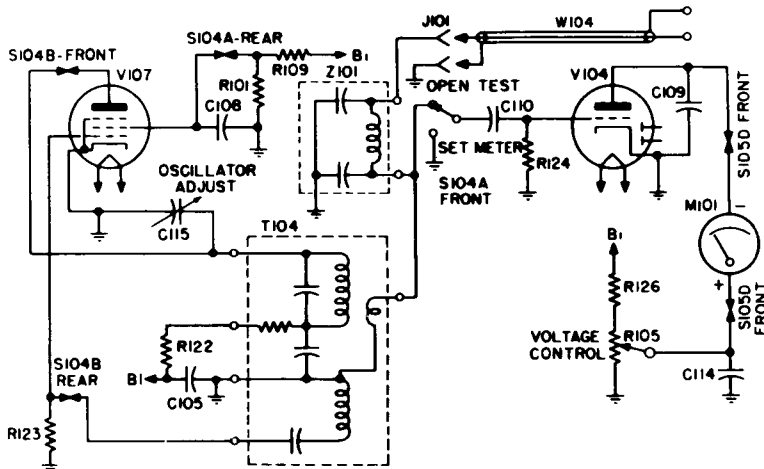

Figure 4-12. Capacitor Quality, Calibrate and Open Test Circuit
a. Special testing facilities are included in the ZM-11/U for determining if a capacitor is either shorted or open without disconnecting it from its circuit and even though it is shunted with a resistor or inductor of not too low a value. (This limitation is fully covered in Section 3.) With the FUNCTION and RANGE switches in the required positions for this test, the essential circuits are shown in Figures 4-12 and 4-13. Both show the triode, V104, connected as an electronic voltmeter of the grid rectifying type. Figure 4-12 shows its grid grounded in the SET METER position of the CAPACITOR QUALITY TEST switch so the meter in its plate circuit may be set to full scale by potentiometer, R105 (VOLTAGE CONTROL). Recall now that the grid rectifying electronic voltmeter gives full scale deflection for zero input and deflects down-scale for appreciable applied voltage.